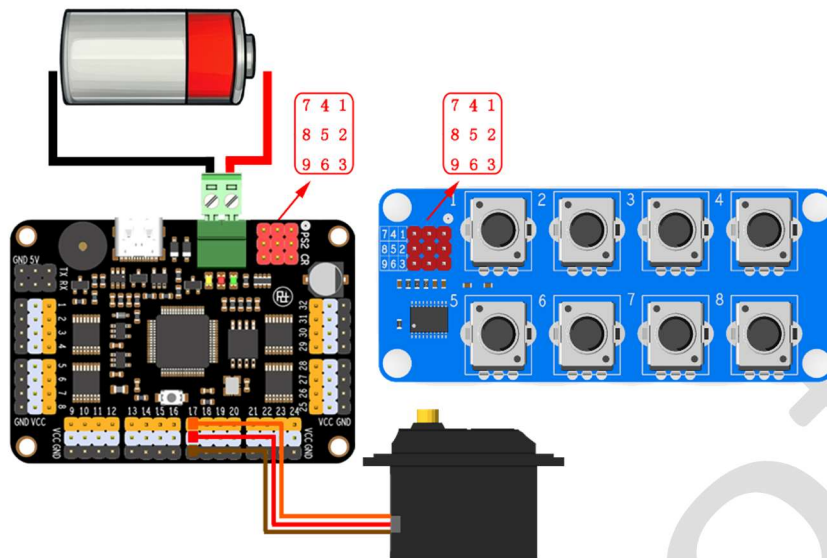

Figure 6
V. Potentiometer wiring method, as shown in *Figure 6*:
The potentiometer module is connected to the servo motor controller, as shown in Figure 6, connect 1 - 1, 2 - 2, and 3 - 3...